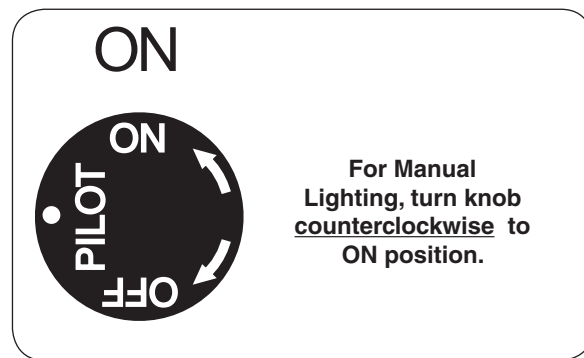

Fig. 39-3 Control knob detail (ON)
2. Turn the gas control knob counterclockwise to **ON** (Fig. 39-3) to ignite the burner. The valve will open and the burner will light.